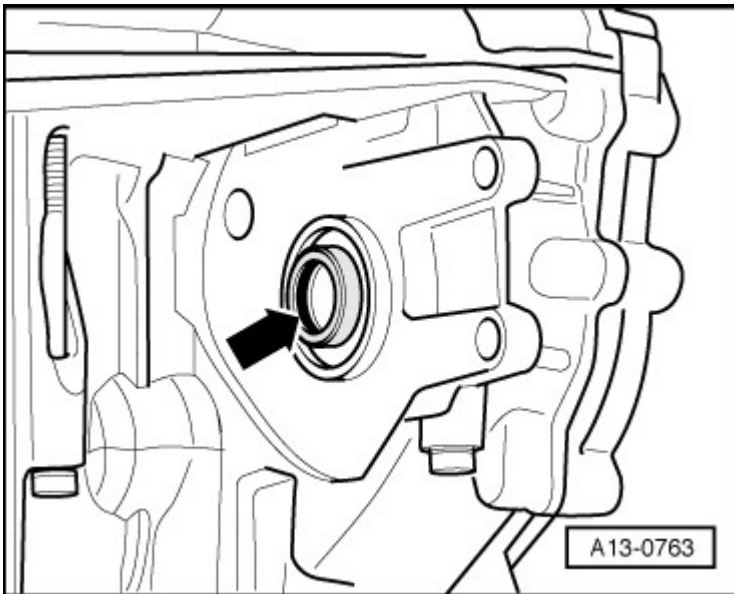

Fig. 11: Checking Whether O-Ring Is Inserted In Power Steering Pump Input Shaft
- Semi-circular seal installation location, refer to **Fig. 11**